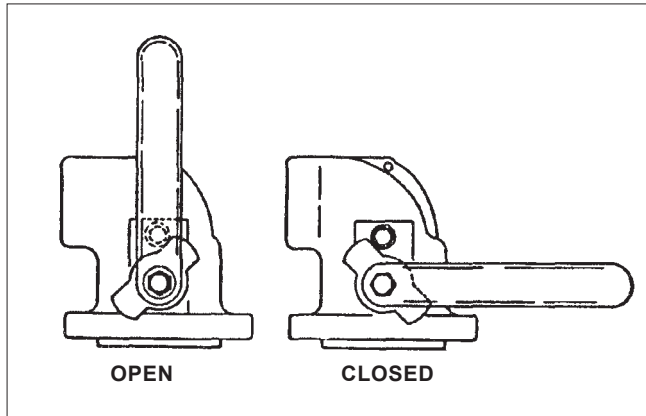

Figure 3.
10. Install the handle (13), securing it with the cap screw (18) and washer (17).
11. Compare the handle orientation against that shown in **Figures 3 and 4**. If orientation does not correspond to these illustrations, reposition the handle (13) and/or indicator stop (11) as required.